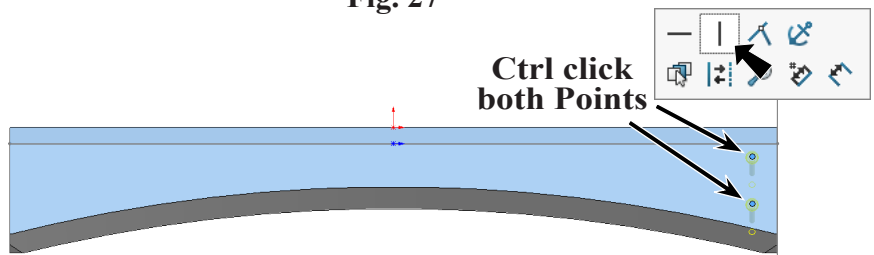
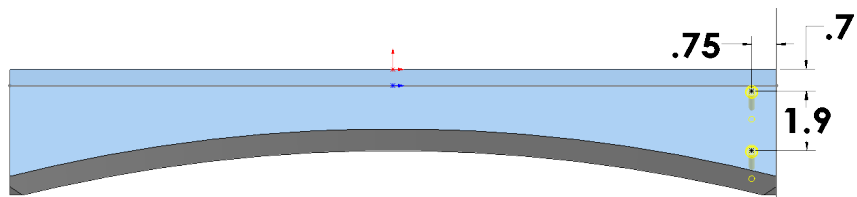

Fig. 28
Fig. 29
Step 7. **Ctrl click both Points** to select both. Release Ctrl key and click **Make Vertical**  on the context toolbar, **Fig. 28**.
Step 8. Click **Smart Dimension**  (S) on the Sketch toolbar.
Step 9. Add dimension, **Fig. 29**.